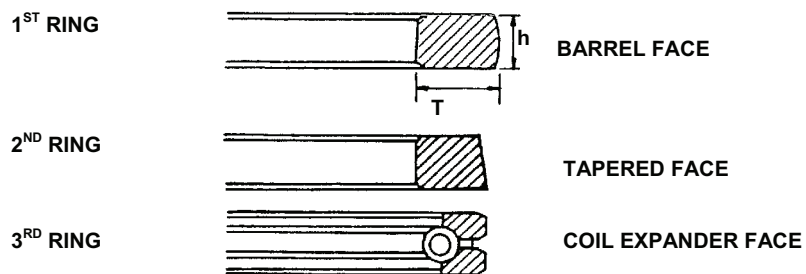

Figure 3. Piston Rings Measurement.
1. Measure the thickness (T) and height (h) of the piston ring. See Figure 3.